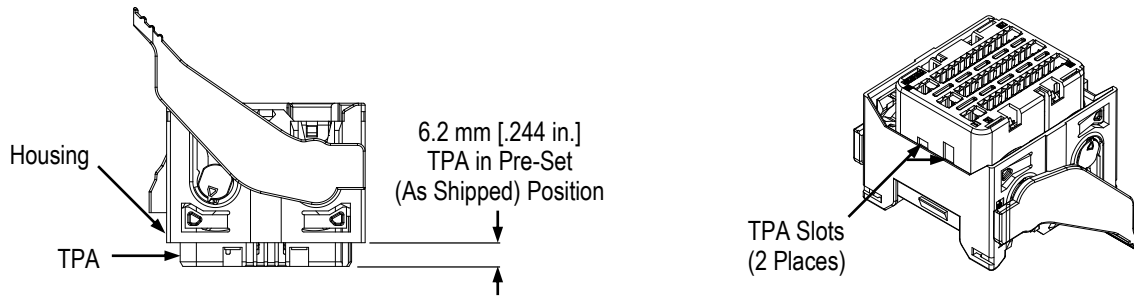

Figure 2
2. Before inserting any terminals, make sure that the TPA is in the pre-set (as shipped) position as shown in Figure 2. If the TPA is not in the pre-set position, alternately insert the tip of a small screwdriver into the TPA slots, and move the TPA from the housing to the dimension given in Figure 2. Do not remove the TPA from the housing.
1. Alternately insert the tip of a small screwdriver into the TPA slots (shown in Figure 2), and move the TPA to the pre-set position; then remove it from the housing. Retain the TPA.